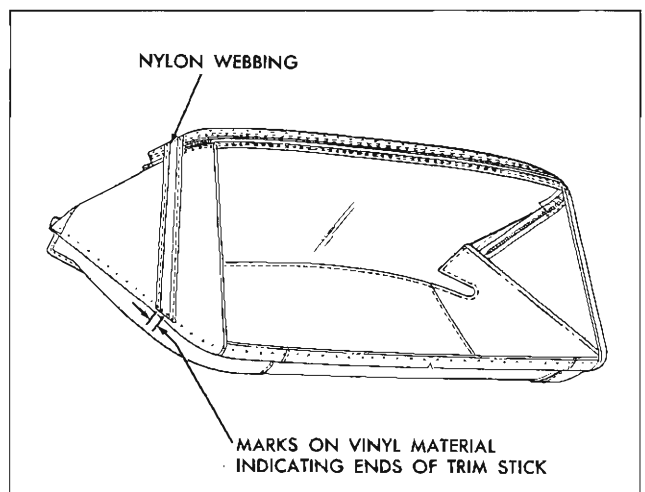

Fig. 21-20 Marking Back Curtain
20. Using chalk, or other suitable material, mark ends of rear and rear quarter trim sticks on vinyl surface of back curtain material (Fig. 21-20). Reference marks for trim sticks should be transferred to new back curtain material when step 6 of installation procedure is performed.
21. Remove right and left nylon webbing from rear trim stick (Fig. 21-20).